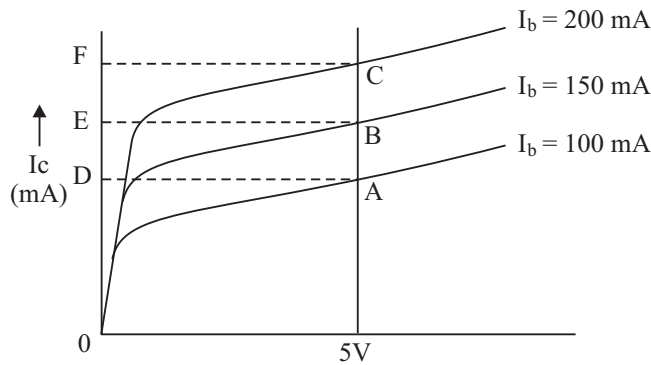

Fig. 27.7
- (iii) Plot graphs from the data recorded in above three tables. The graphs obtained and shown in fig. 27.7. These are the characteristics of CL100 in CE mode. At low V_{ce} a fraction of charge carriers injected into the base region are collected by the collector and hence I_c is small. As V_{ce} increases more and more carriers get collected, hence I_c rises rapidly. When all the carriers have been collected I_c becomes nearly constant. This explains the shape of the characteristics curves.
- (iv) To find the current amplification factor β of the transistor draw a vertical line perpendicular to V_{ce} axis at say -5V point. Let it cut the three curves at A, B and C as shown in Fig. 27.7. Now from points A, B and C draw perpendiculars on the I_c axis. Let these meet the axis at points D, E and F as shown in Fig. 27.7.
(iv) From your experimental curves (Fig. 27.7) find out how will β change with V_{ce} .